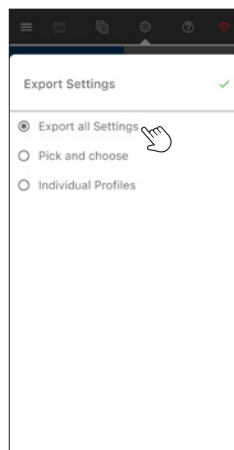

Figure 1
Step 2: In the popup window, select one of the three options (Figure 1, 2 and 3) then tap the  **checkmark** button to confirm the selection